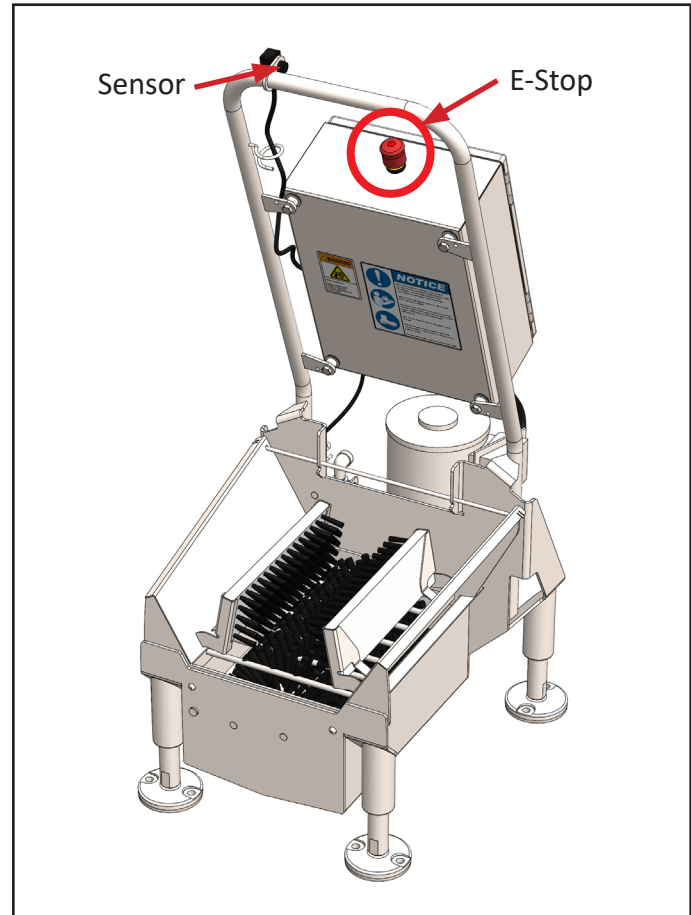

Fig. 7.1: Emergency stop and activation sensor locations
2. Pull the E-STOP switch up to engage power, when illuminated the unit has power [Figure 7.1].
2. When activated, the brush will begin to rotate and the solution/water will spray [Figure 7.1].